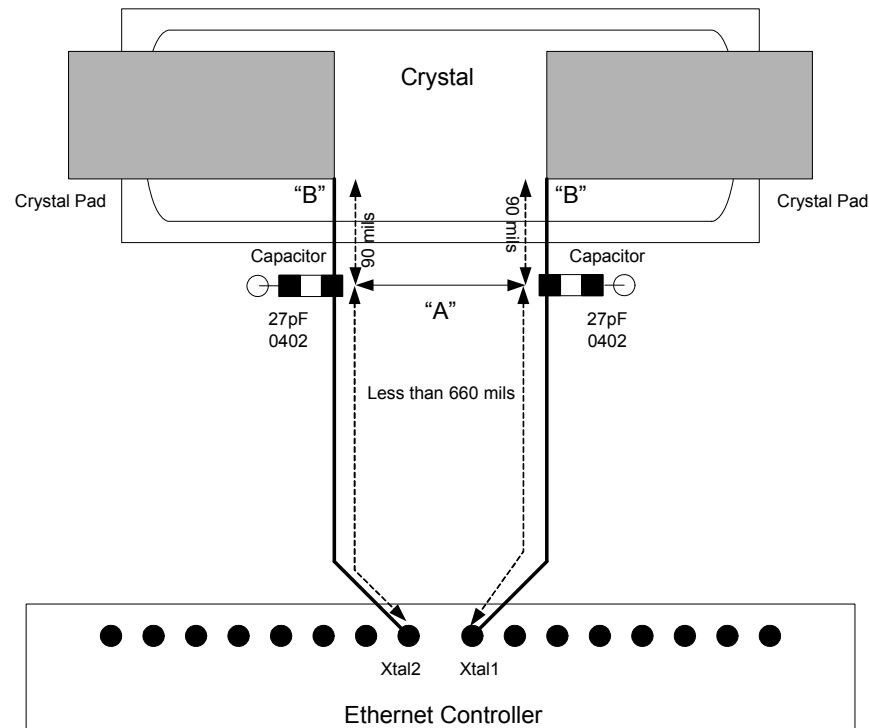

Figure 66. Recommended Crystal Placement and Layout
Figure 66 shows the recommended placement and layout of an internal oscillator circuit. Note that pin X1 and X2 refers to XTAL1 and XTAL2 in the Ethernet device, respectively. The crystal and the capacitors form a feedback element for the internal inverting amplifier. This combination is called parallel-resonant, because it has positive reactance at the selected frequency. In other words, the crystal behaves like an inductor in a parallel LC circuit. Oscillators with piezoelectric feedback elements are also known as “Pierce” oscillators.
- Place load capacitor solder pad directly in line with circuit trace (see Figure 66, point A).
- Route XTAL1 and XTAL2 traces to nearest inside corners of crystal pad (see Figure 66, point B).